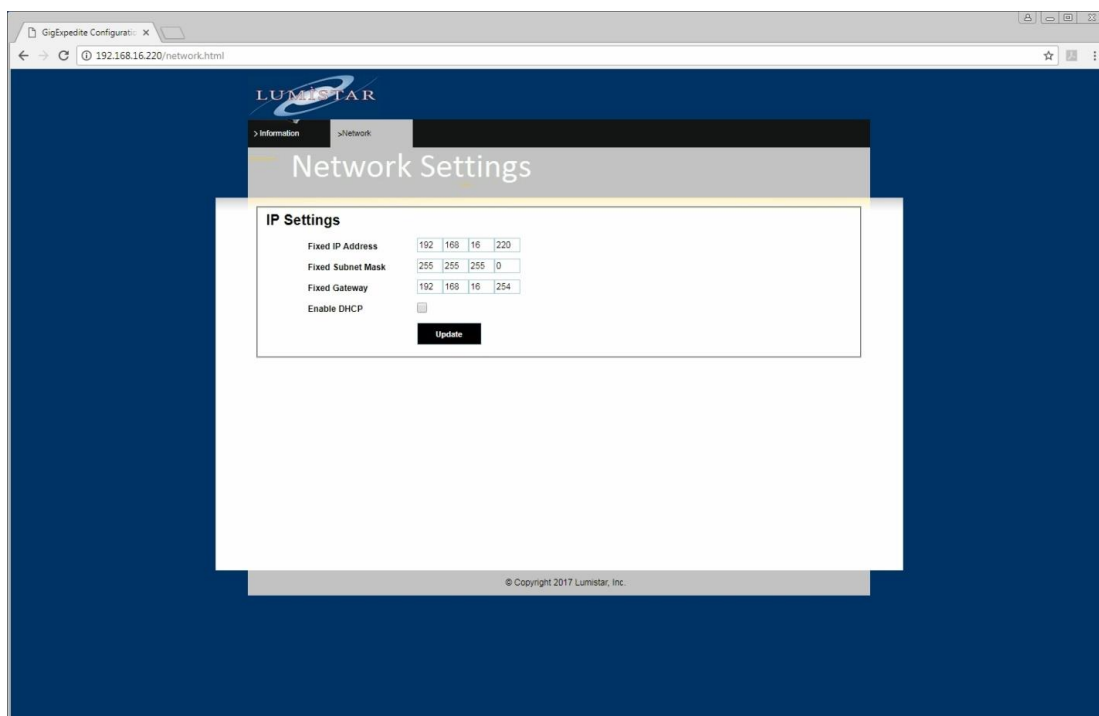

Figure 3-8 LS-28-DRSM Network Setup: Web Browser Network Setup Tab
Step 5: To change any of a number of other network parameters, select the NETWORK tab on the web browser page. This will bring up web page similar to the one shown in Figure 3-8.